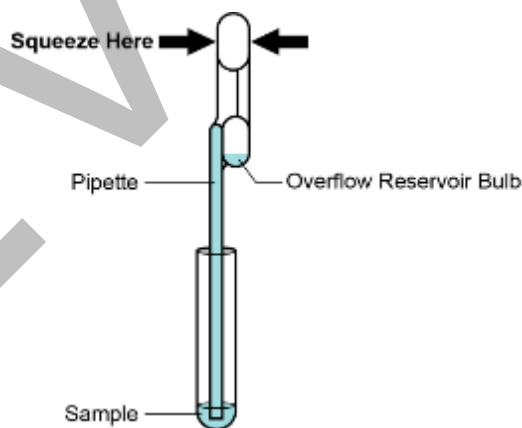

Figure 26. Transfer Pipette
13. Squeeze the top bulb of the transfer pipette **completely** and then place the pipette tip in the external control tube (see Figure 26).
14. Release the top bulb of the pipette to fill the pipette before removing from the tube. After filling pipette, excess sample can be seen in the overflow reservoir bulb of the pipette (see Figure 26). Check that the pipette does not contain bubbles.